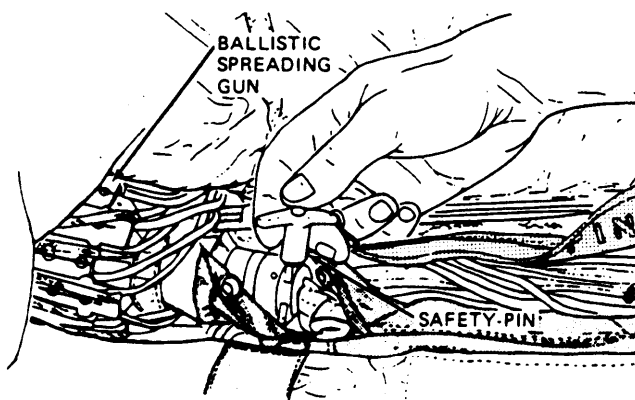

Figure 3-12.—Inserting safety pins.
**ENSURE THE SAFETY PIN IS INSTALLED IN THE SPREADING GUN (FIG. 3-12).**